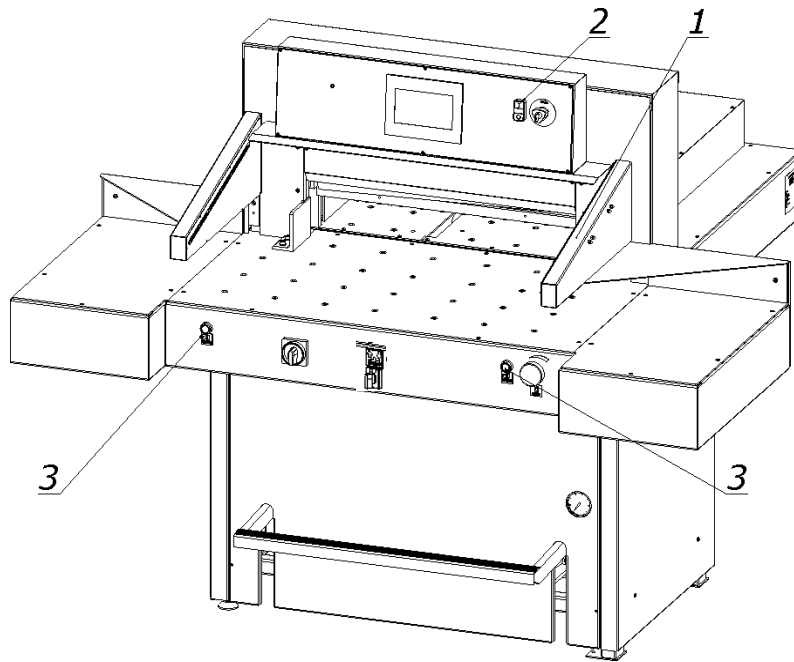

Fig. 19. Operating and signaling elements used during cutting.
1. there is no object in the work area of the light barrier - the green OSSD (1) LED lights up (fig.11) on the receiver 1 (fig. 19).
2. the green push button (2) is pressed.
3. the operation buttons (3) were pressed simultaneously.